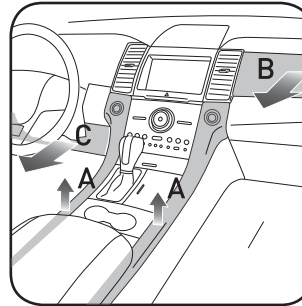
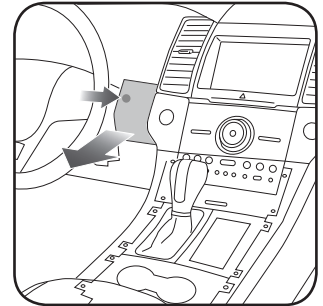

Fig. 1.1
Fig. 1.2
1. Unclip and remove the two (2) trim panels on the sides of the center console. (Fig. 1.1-A)
2. Unclip and remove the dash trim panel (right of passenger a/c vent). (Fig. 1.1-B)
3. Unclip and remove the knee bolster panel (below steering column). (Fig. 1.1-C)
4. Remove one (1) 7mm screw from trim panel which has interior light switch in it (left of steering column).
5. Unclip and remove the trim panel between the steering column and the key cylinder. Remove one (1) 7mm screw exposed. (Fig. 1.2)